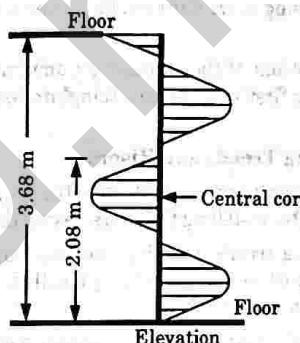

Fig. 3.14.3. Spiral stair.
- Circular or Helical or Spiral Stairs :** In this type of stair, the steps radiate from the centre and they do not have either any landing or any intermediate newel post. Fig. 3.14.3 shows the details of a circular stair.